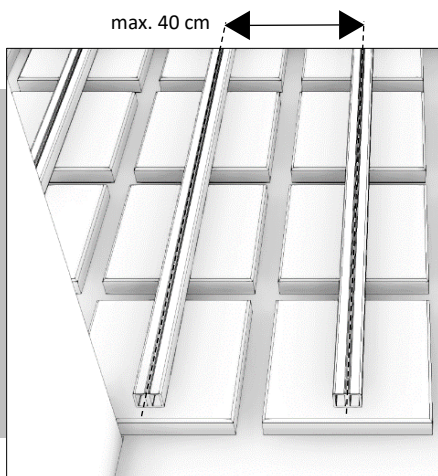

FIG. 1
- The joists must be a maximum of 40 cm apart (centre to centre) (Fig. 1). This applies to situations in which the decking boards are perpendicular to the joists. If the decking boards are placed diagonally (under 45°), the joists must be a maximum of 30 cm apart (centre to centre).